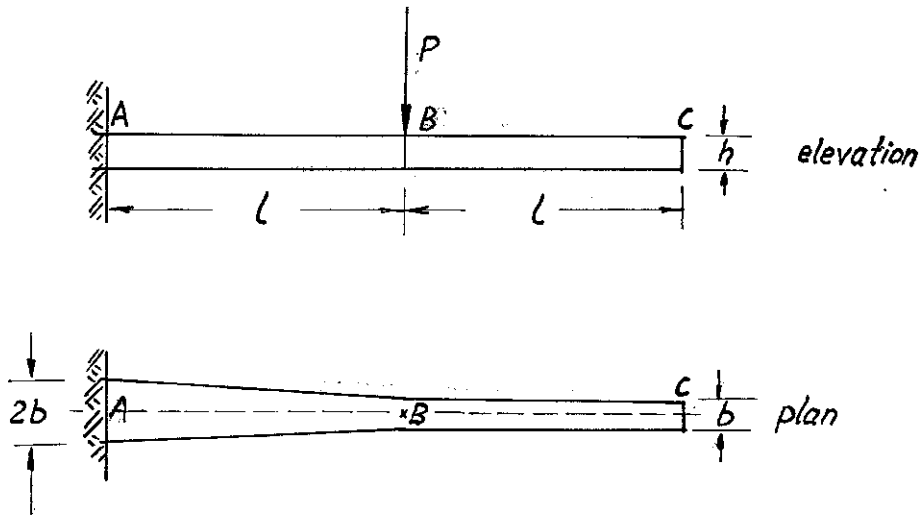

Figure 2
2. A cantilever having a constant depth  $h$  but a varying width between A and B as shown below in Figure 2, is under the action of a vertical load  $P$  applied at point B. Find the vertical deflection of the end C.